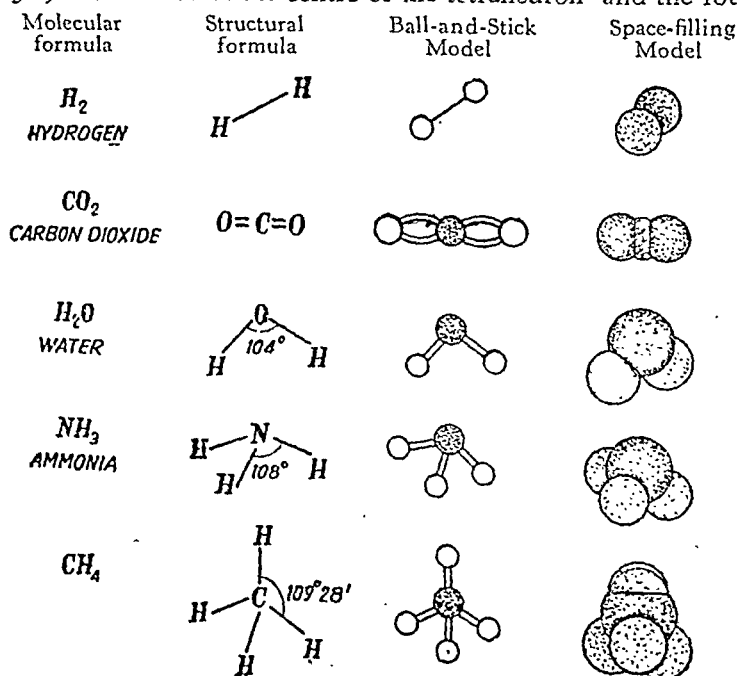

Fig. 5'2—Shapes of molecules.
8. **Shapes of Molecules.**—Molecules which contain two atoms are necessarily linear but those containing three or more atoms may or may not be linear. For example, the molecule of CO_2 is linear whereas the two $\text{O}-\text{H}$ bonds in H_2O are inclined at an angle of $104^\circ 31'$. Methane, CH_4 , has a tetrahedral shape (see Fig. 5'2) with carbon at the centre of the tetrahedron and the four